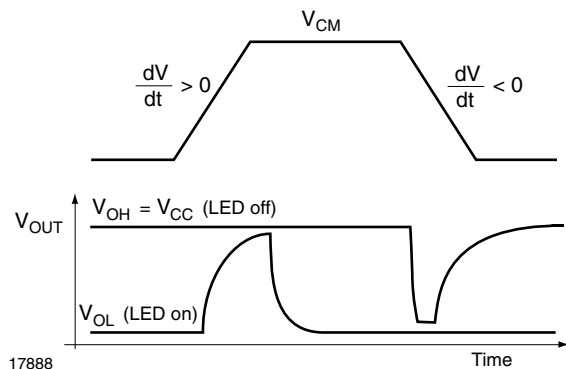

Fig. 12 - Common Mode Signal and the Distorted Output Signal
At the case, where the LED is on, the above considerations are also valid (equations (9) and (10)). However, as figure 12 indicates, the critical point is now the rising edge of the transient.